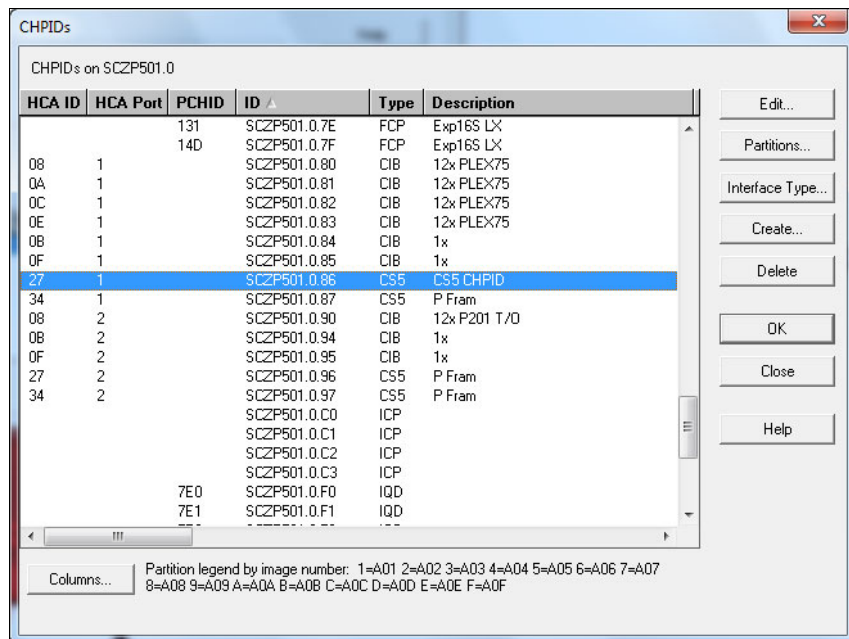

Figure 6-28 HCM - CHPIDs: first CS5 CHPID defined
- Now observe the CS5 CHPID defined in the CHPID summary list (Figure 6-28).